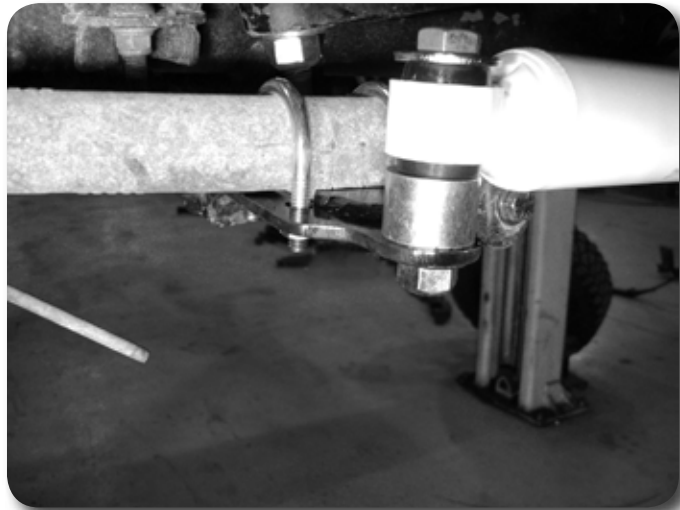

Figure 5
7. Grease and install the bushings and sleeves into the stabilizers. Attach the stabilizer to the bottom side of the center bracket with 1/2" x 2-1/2" hardware. Attach the stabilizer to the outer brackets with spacers and 1/2" x 3-1/4" hardware. Run hardware from top – down. Tighten to 50 ft-lbs. Figure 5